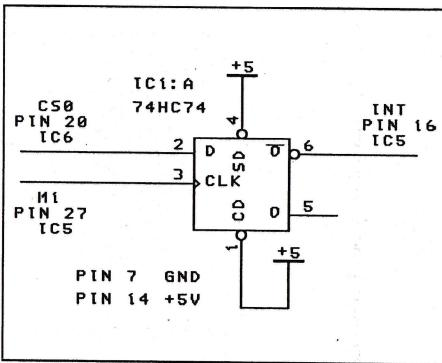

Figure 7. Basic Hardware Single Stepper Circuit.
**Basic Single Step Hardware.** Figure 7 shows the hardware required to generate an interrupt after every instruction. M1 (machine cycle 1) is an output from the Z80 that indicates that it is fetching an instruction. The M1 signal is used to clock one of the D flip-flops in the 74HC74.